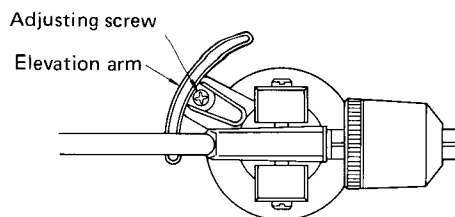

Fig. 2
2. Maintaining this state, rotate the adjusting screw (Fig. 2) so that distance between stylus tip and disk surface is about 6mm: turn the screw counterclockwise to raise the position of stylus tip, and clockwise to lower it.